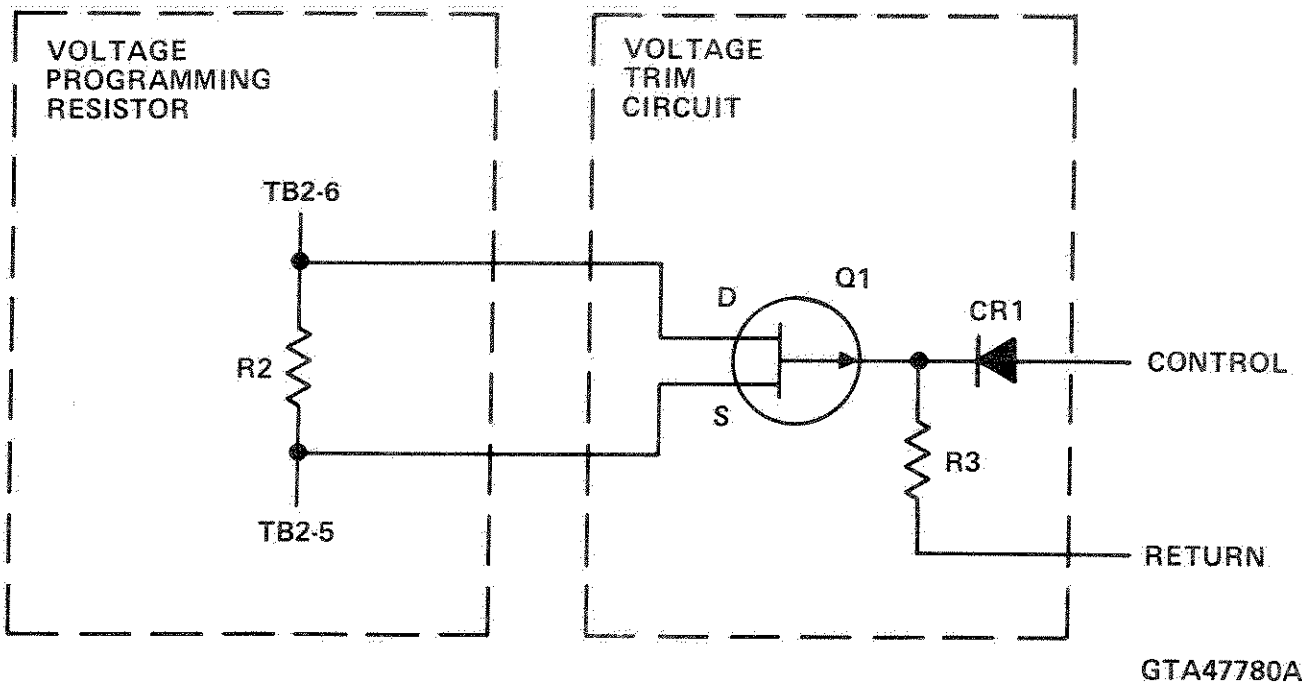

Figure 5-20. Voltage Programming Resistor and Voltage Trim Circuit, Simplified Circuit Diagram
3. Voltage programming resistor R2 (Figure 5-20) sets the output voltage of PS1. It is connected between PS1TB2-5 and PS1TB2-6. The voltage trim circuit comprises Q1, CR1, and R3. When a positive control voltage is applied to CR1, it is forward biased, and the voltage developed across R3 is coupled to the gate of Q1. Q1 is a P-channel FET in parallel with R2. The more positive the gate voltage of Q1 the greater the source to drain resistance of Q1. This increases the resistance of parallel Q1-R2 and increases the output voltage of PS1.